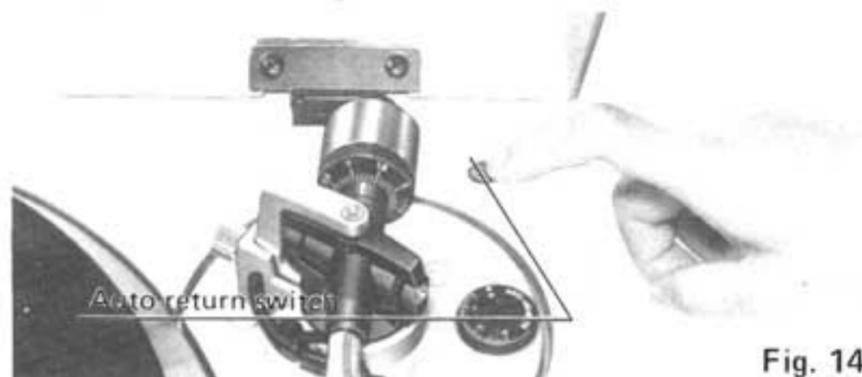

Fig. 14
- Should any phono disc whose central hole is off center be played, the tonearm will automatically return during the course of performance. In such a case, set the auto return switch to the OFF (■) position (see Fig. 14), and then the phono disc can be played to the final groove.